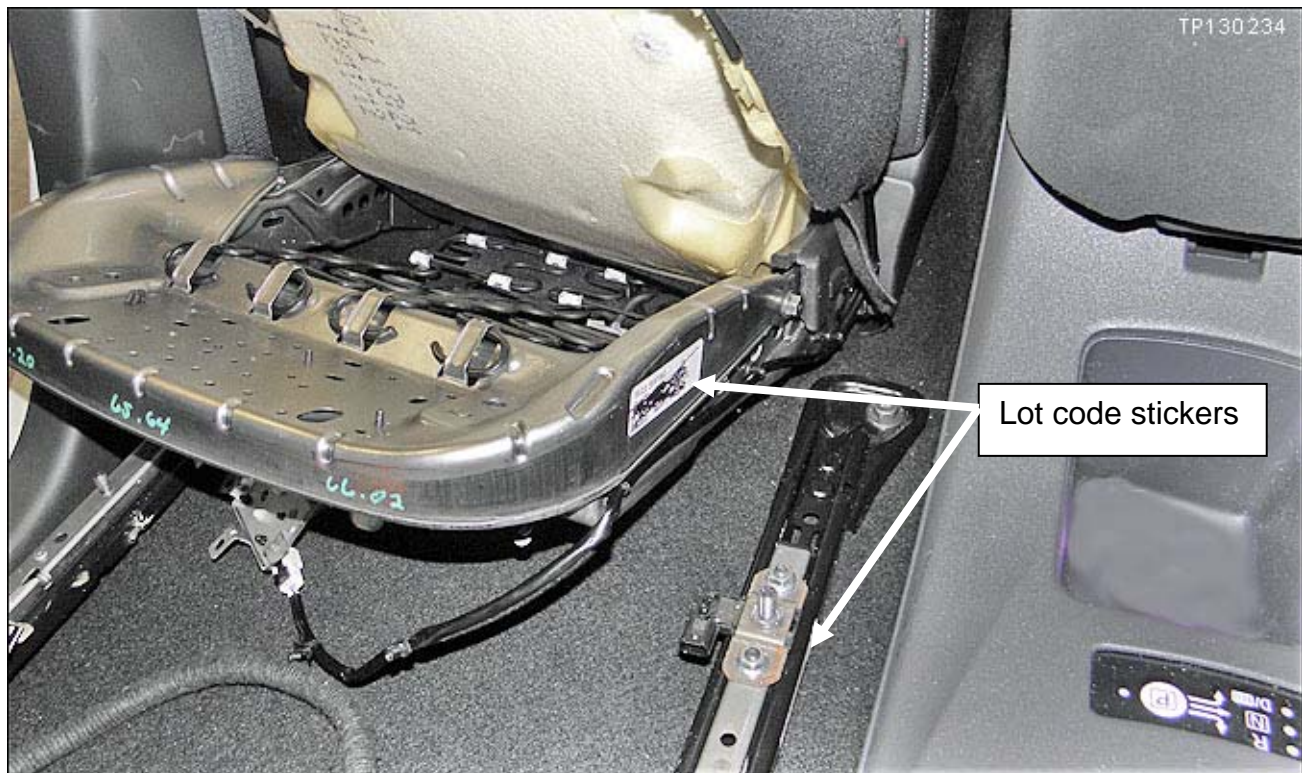

Figure 17
23. Use a permanent marker to mark through the lot code stickers shown in Figure 17.